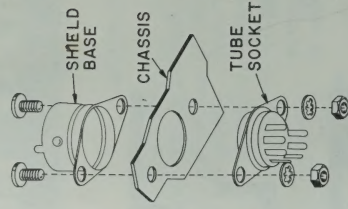

FIGURE 2
- ☒ V-1, 7-pin tube socket and tube shield base. Mount the shield base from the top of the chassis and the tube socket from inside the chassis as shown in Figure 2. Position the socket with the keyway (wide space between two pins) as shown in Figure 1. Use two 4-40 x 1/4" screws, lockwashers and nuts.